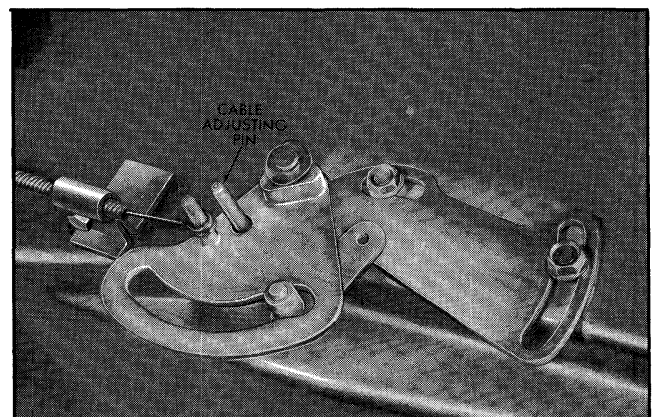

Fig. 12-3 Temperature Control Cable Adjusting Pin in Position
The fan control lever has four distinct positions - OFF, LO, MED, and HI; HI is in the full up position, LO and MED partially down, and OFF in the full down position (Fig. 12-3).
3. Adjust turnbuckle as necessary to allow 3/16" diameter gauge pin to pass freely from control cam into bracket on heater case (Fig. 12-3).